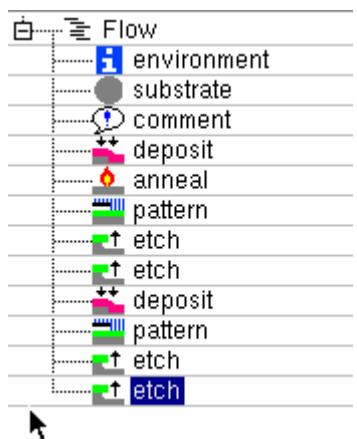

Figure 96: Process Window.
24. Check t make sure your process window looks like Figure 96.